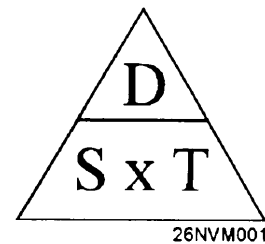

Figure 8-1.
Simply place the letters in a triangle, as shown in figure 8-1. For distance (D), place your finger over the D and you have S x T. For speed (S), cover the S and you have D ÷ T. For time (T), cover the T and you have D ÷ S.